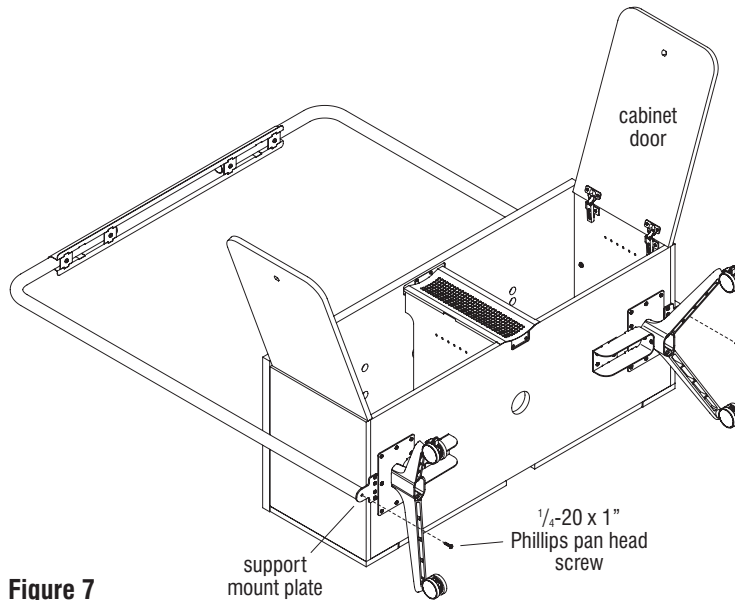

Figure 7
3. At the underside of the cabinet at one installed support mount plate at a time, align the mounting hole in the bottom of the support mount tube with the mounting hole in the support mount plate, and fasten securely using one 1/4-20 x 1" Phillips pan head screw. Repeat this step for the support mount tube at the other side of the cabinet (Figure 7 & Detail G).